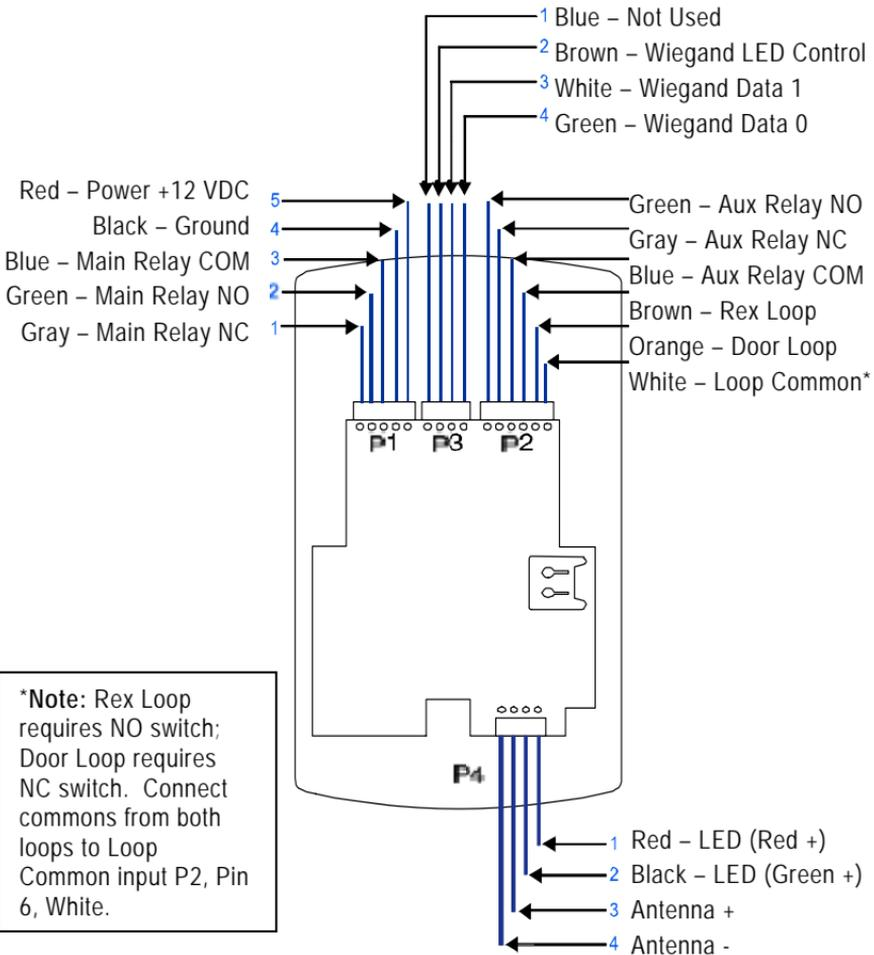

Figure 11 Pin Locator Diagram
5. Refer to Figure 11 to make the wiring connections to the cable assembly if you are using a door contact.
Figure 11 illustrates the location and description of the four pin connectors on the main circuit board and its use. Connector P5 is not used.